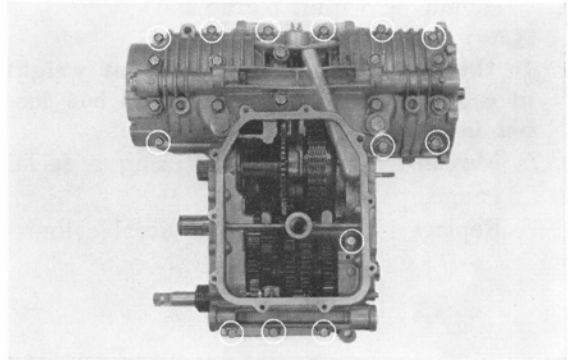

Fig. 153 6 mm mounting bolts
7. Position the upper crankcase on top and install with three each, 6 mm and 8 mm bolts. (Fig. 153)